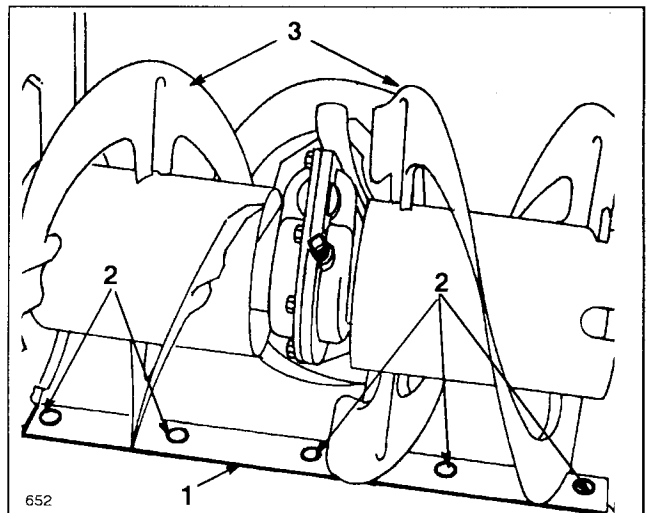

Figure 18
4. Support the auger blades off the ground so that both the scraper and the auger blades (Fig. 18) clear the level surface by at least 1/16 inch.
5. Check the scraper blade adjustment. Scraper should be above and parallel to level surface. To adjust scraper, loosen (5) mounting screws (Fig. 18), level scraper, and retighten screws.